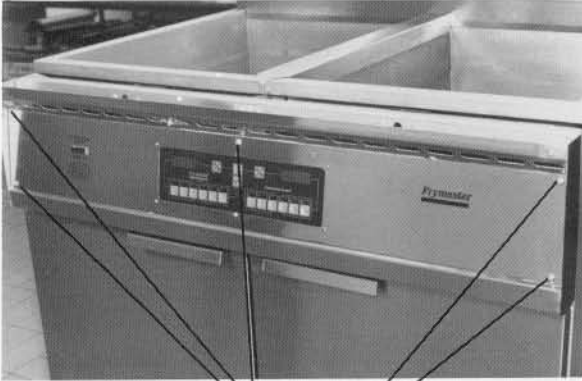

Figure 1
1. Remove 5 control panel screws (Fig. 1).
2. Remove 5 control panel screws (Fig. 1)
- Remove 5 control panel screws (Fig. 1).
- Remove 5 screws from control panel (Fig. 1).
1. Remove 5 screws from control panel (Fig. 1).